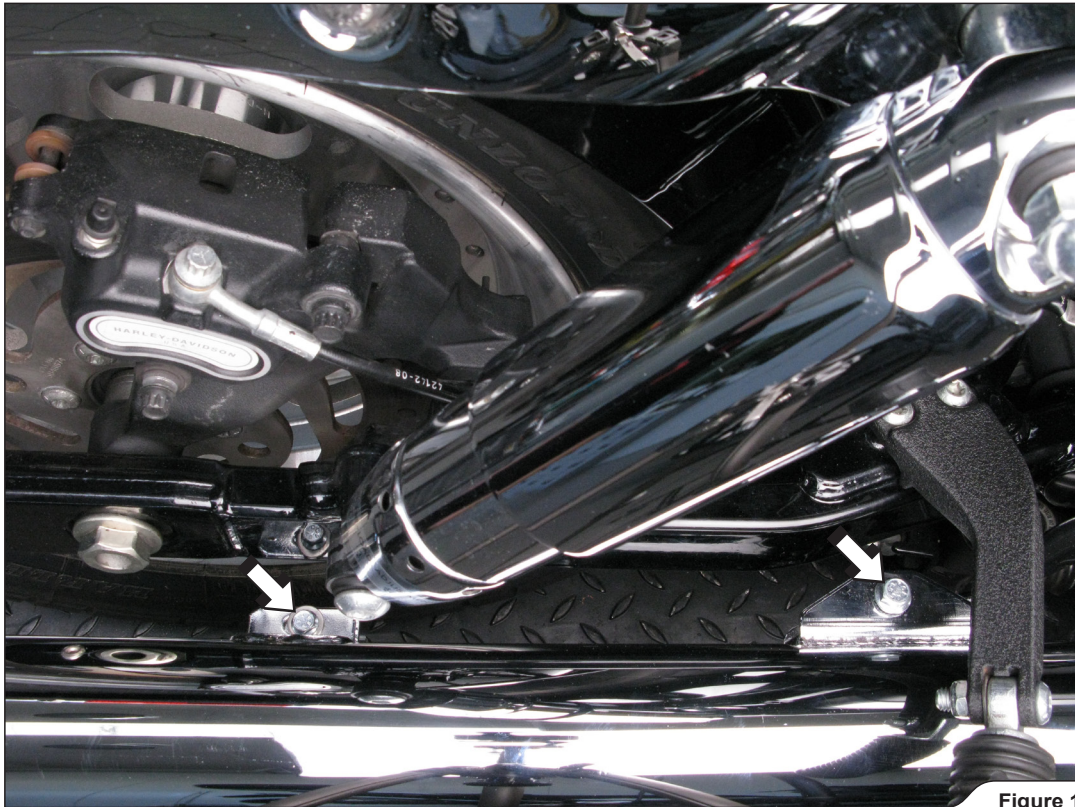

Figure 1
2. Unscrew the mufflers' connection bolt and upper muffler's bracket bolt (Figure 1).